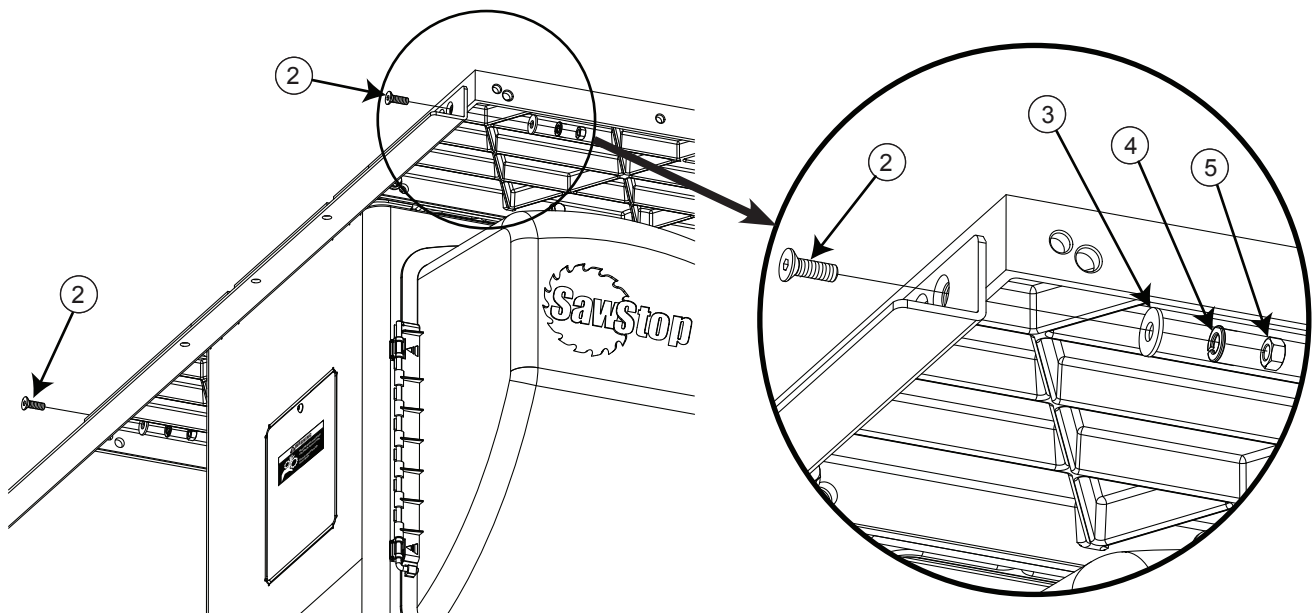

Fig. 7
7. Take two M8x1.25x25 flat head socket bolts and insert one through the open hole at the end of each extension wing. Place an M8x23x2 washer and an M8 lock washer on the back of each bolt and then thread an M8x1.25 hex nut on each bolt (see Fig. 7). Hand tighten the nuts; do not fully tighten them.